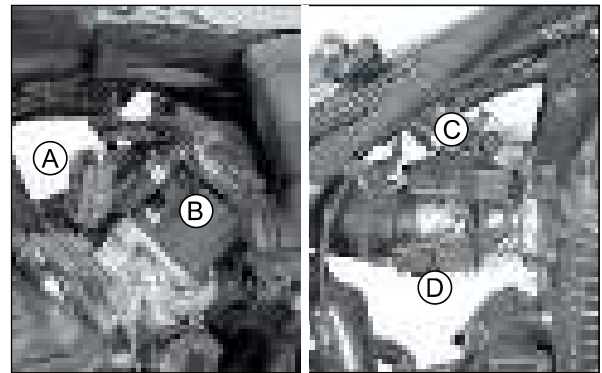

Fig. 4.34
- Disconnect all the couplers fixed to the throttle body (A, B, C & D). (Fig. 4.34)